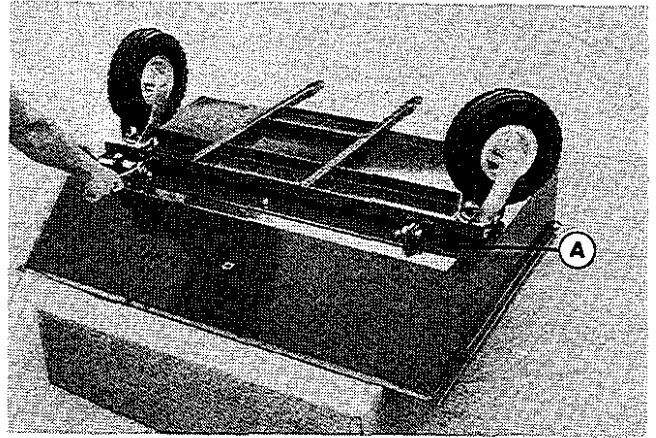

Figure 4
3. Turn box upside down and install the frame to the U-bracket (figure 4). Align the two prong end (A) in the frame with the ends of the U-bracket and secure with two $1/2-13 \times 1-1/4$ hex bolts and locknuts. **DO NOT** overtighten the locknuts, since the box pivots at this point for dumping.